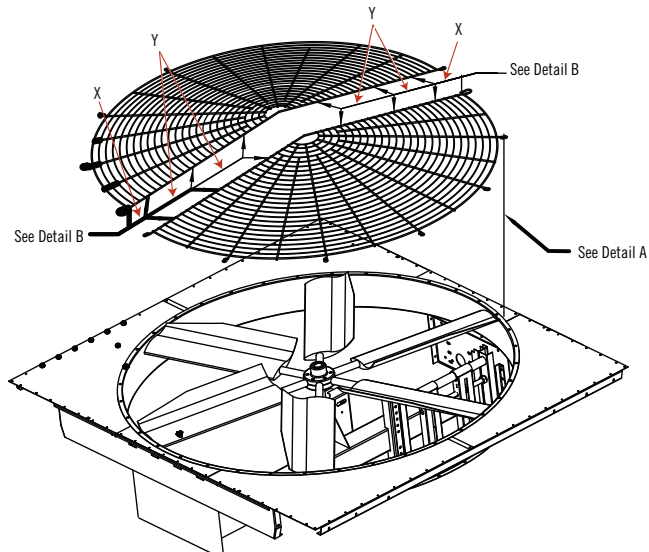

Figure 4. Two-Piece Fan Guard Assembly
1. Using six sets of fan guard clips and hardware, fasten the two halves of the fan guard together as illustrated in **Figure 4, Detail B**. Locate the clip assemblies along the seam between the two guard halves per the X and Y dimension provided in **Table 3**, which are based on the diameter of the supplied fan.
3. Mount the fan guard to the unit as illustrated in **Figure 4, Detail A**.